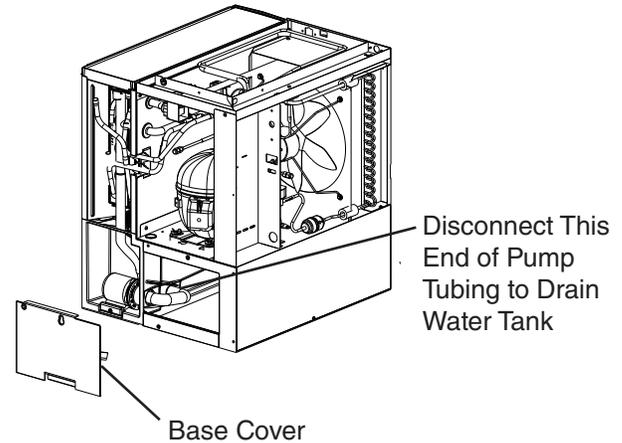

Fig. 7
- 3) Drain the water tank. Remove the base cover, then disconnect the water tank end of the pump tubing to drain the water tank. See Fig. 7. After the water tank has drained, reconnect the pump tubing.
- 3) Remove the base cover, disconnect the water tank end of the pump tubing to drain the water tank. See Fig. 7. After the water tank has drained, reconnect the pump tubing.